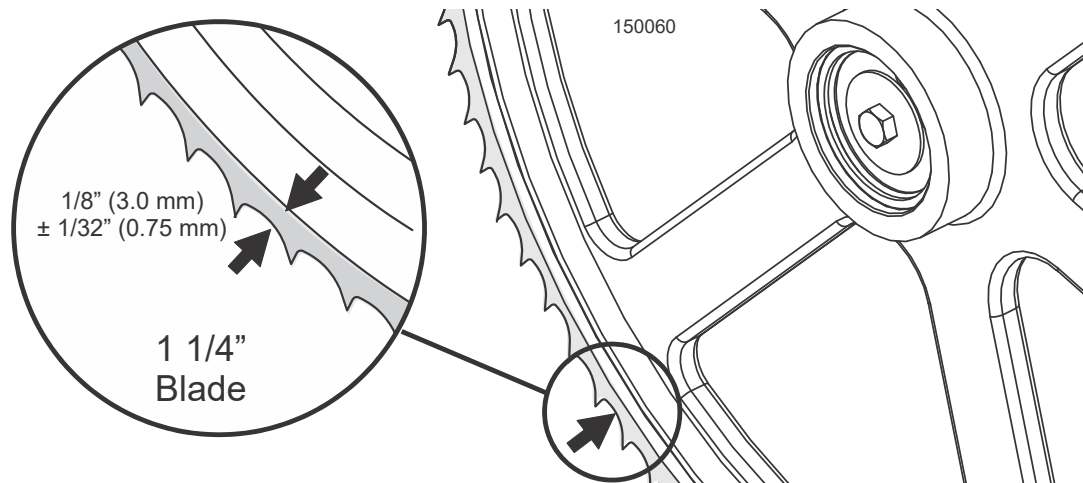

FIG. 8-11
See Figure 8-11.
8. If necessary, adjust the drive-side blade wheel to position the blade as shown in Figure 8-11.